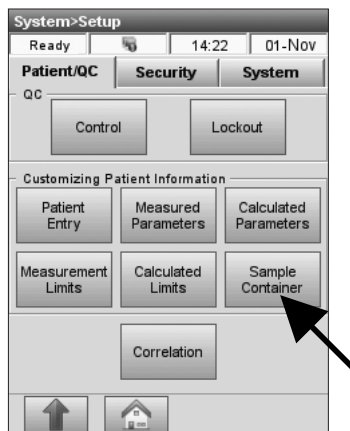

Fig. 3-45 Sample Container
2. In the **<System Setup>** menu, press **<Sample Container>** on the **<Patient/QC>** tab (Fig. 3-45).